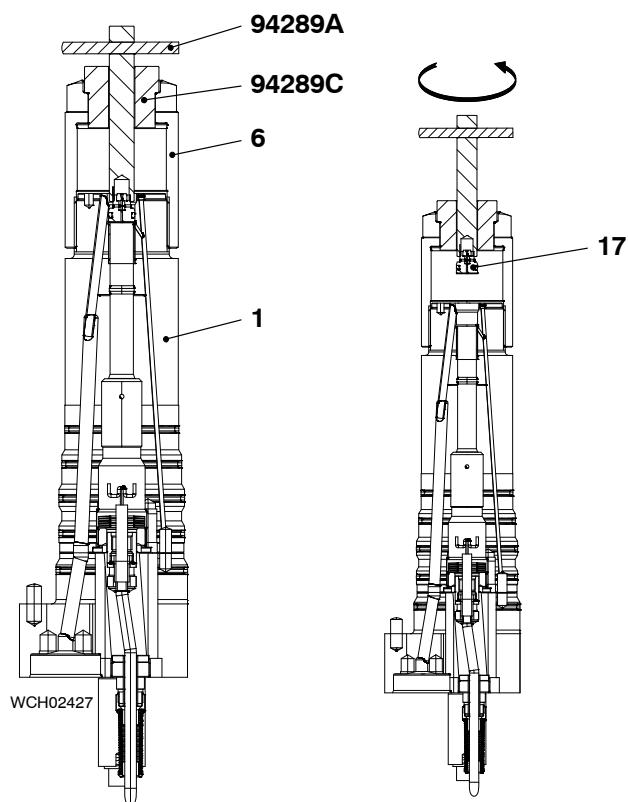

Fig. 3
- 1) Remove the pilot valve (17, Fig. 3) from the injection valve (1) as follows: